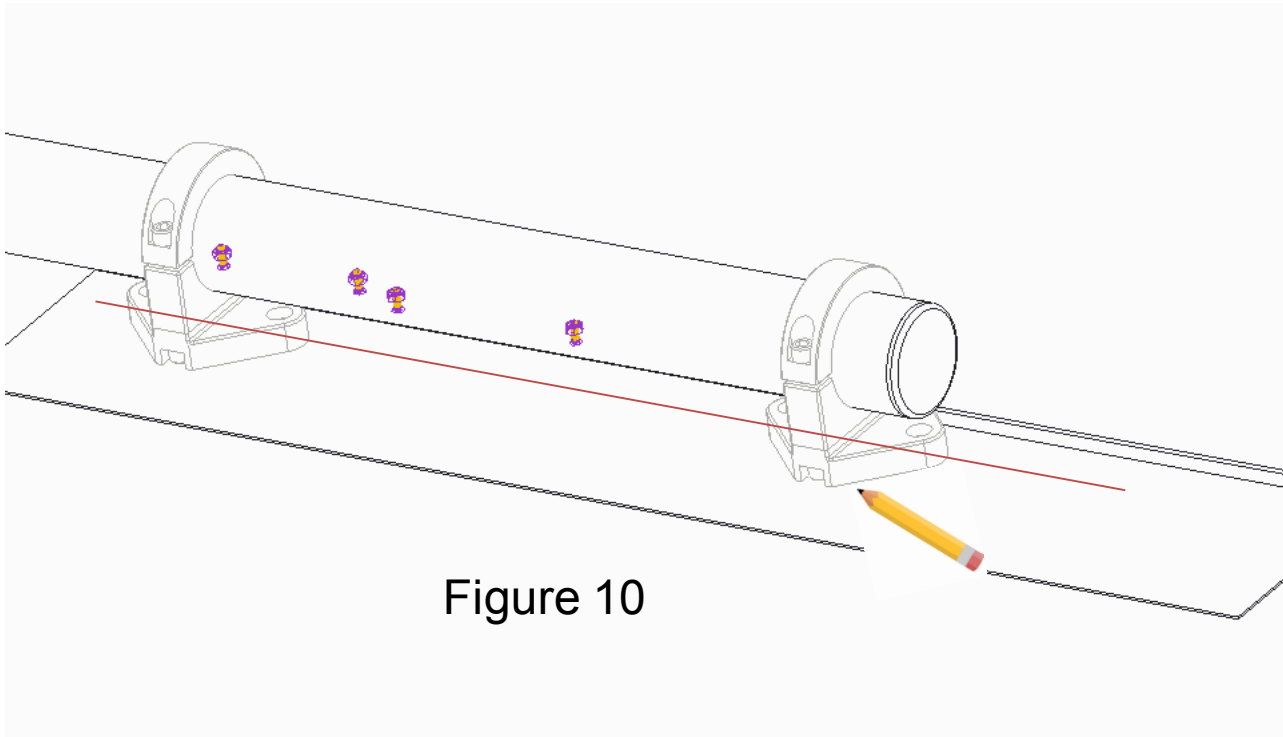

Figure 10
- A. Once shade kit is placed in its desired position and holes on the hardtop mounting brackets are centered on the lines, use a pencil and mark the outline of the bracket as shown in figure 10 in four places.